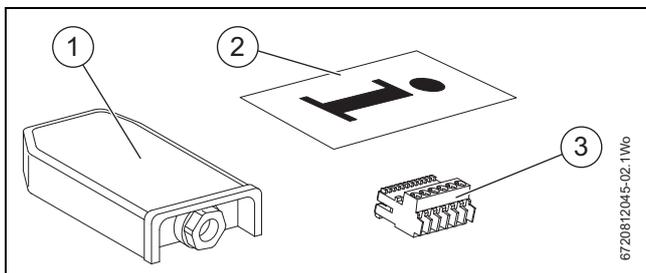

Fig. 1 Standard package
- ▶ Select installation location figure 1.